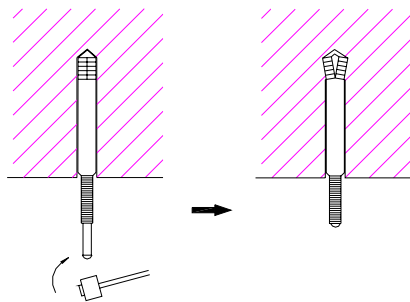

Fig. 4
- (1) Insert a M10 expansion bolt into the hole. Drive a nail into the bolt. Refer to the profile dimensions drawing of the indoor unit for the distance between the holes. Refer to Figure 4 for the installation of the expansion bolt.